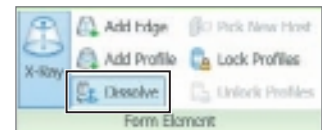

Figure 7.79
12. When a form requires significant changes, you can select the form and choose Dissolve from the Modify tab Form Element panel, as shown in Figure 7.79. This will deconstruct the form back to the current component cross section shapes. There will be one reference point left on each cross section that can be deleted. The form could then be easily reconstructed using the shapes.